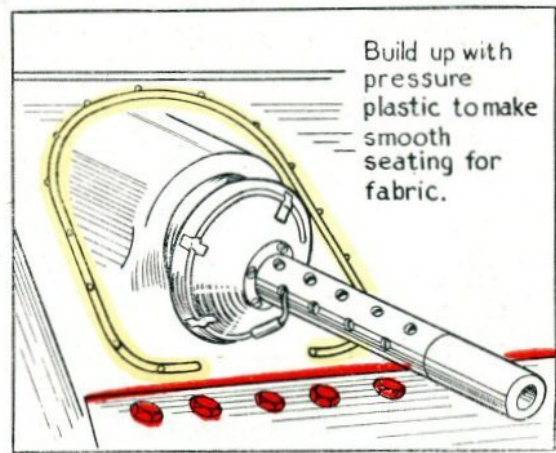

Fig. 20. Cordtex on co-driver's machine gun.
- (ii) The co-driver's machine gun mounting as Fig. 20.